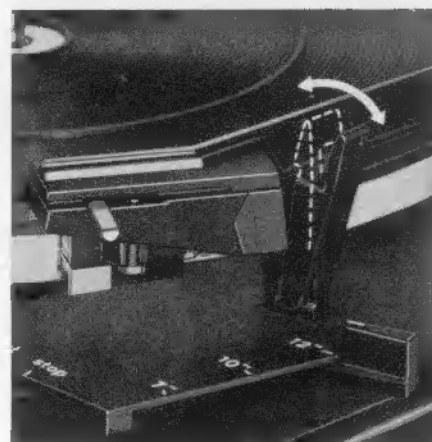

Fig. 8
Then choose the correct speed ② push slide switch ③ to exact record diameter (7, 10, 12") and release tonearm (fig. 8).